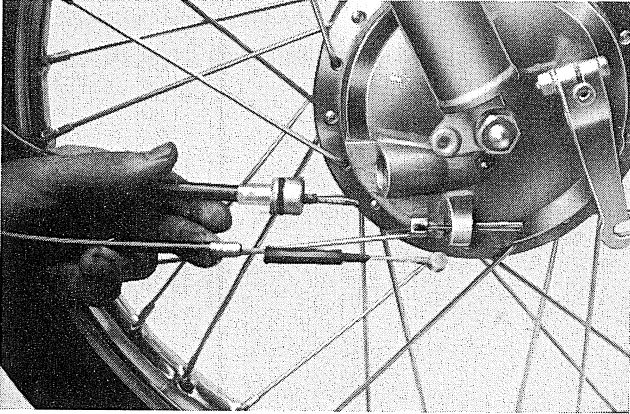

Fig. 4-1-2
- 1) Disconnect the front brake cable and speedometer cable from the front brake shoe plates. (Fig. 4-1-2)